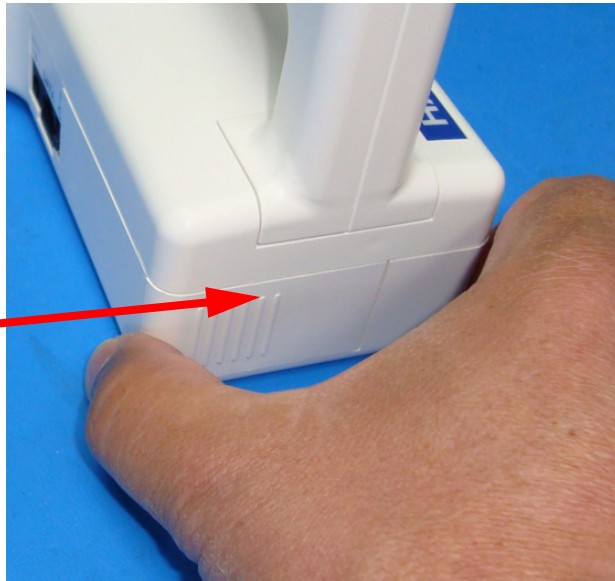

Figure 3-6 Secure the battery compartment door
7. Slide the battery compartment door to the right until it clicks and latches as shown in Figure 3-6.